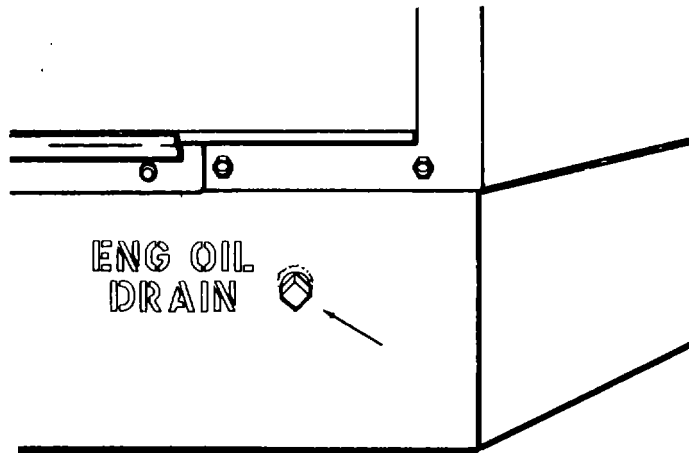

Figure 6-2. Engine Oil Drain
- (2) Drain engine oil. (Figure 6-2)